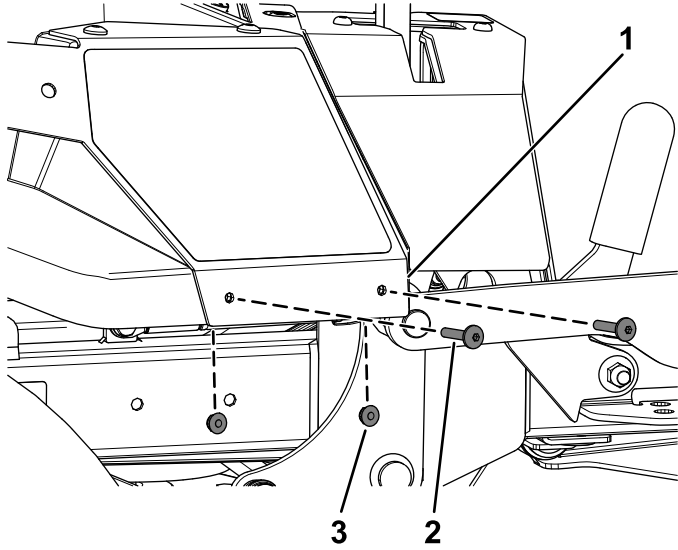

Figure 5
A. Remove the 2 torx-head screws (1/4 x 1-5/16 inches) and 2 locknuts (1/4 inch) from the right pod (Figure 5).